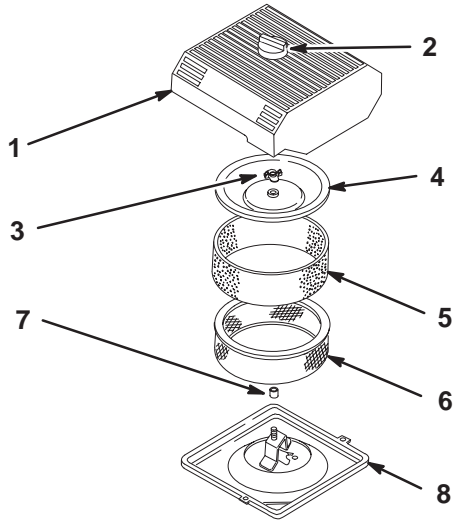

Figure 29
3. Clean around the air cleaner to prevent dirt from getting into the engine and causing damage (Fig. 29).
4. Loosen the knob on the air cleaner cover and remove the cover (Fig. 29).
5. Carefully slide the foam element off the paper element (Fig. 29).
6. Unscrew the cover nut and remove the cover and paper element (Fig. 29).
1. Carefully slide the foam element onto the paper air cleaner element (Fig. 29).
3. Install the cover nut finger-tight against the cover (Fig. 29).